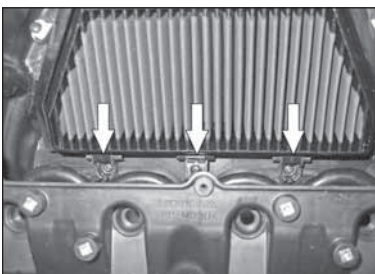

Fig 5.
6. Install the air filter plate onto the K&N® air filter. The three tabs will go into the air filter retainers in the air box. (Fig.5)